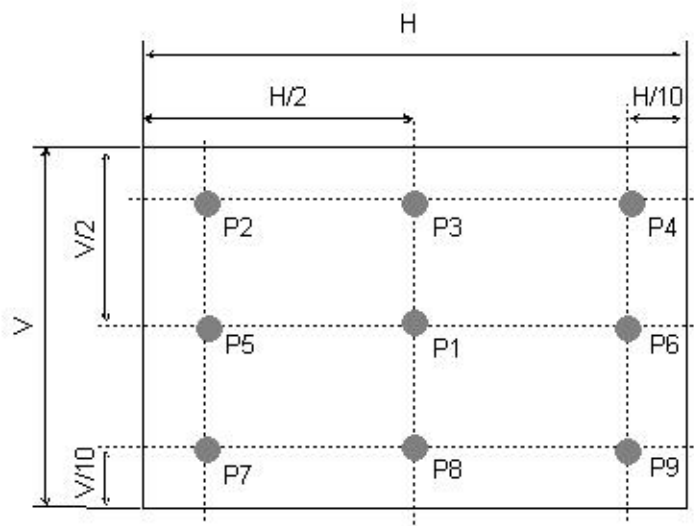

FIG. 2 Measure Point for Luminance
2. Surface luminance(L_{WH})is luminance value at Center 1 point(P1) across the LCD surface 50cm from the surface with all pixels displaying white. For more information see FIG 2. **(By PR880)**
For more information see FIG 2.